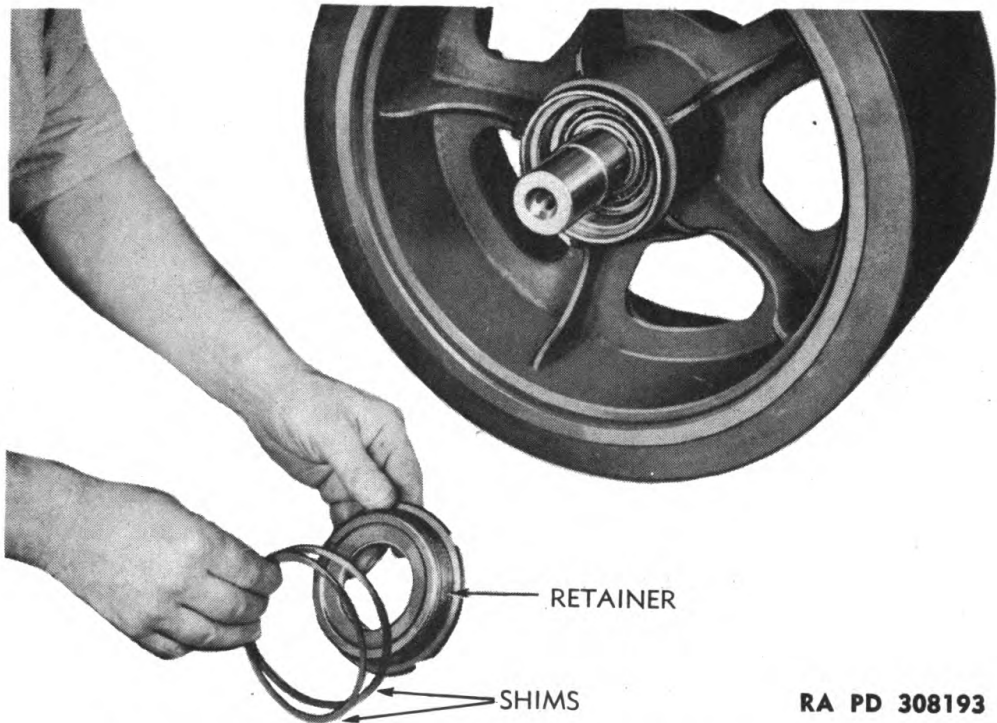
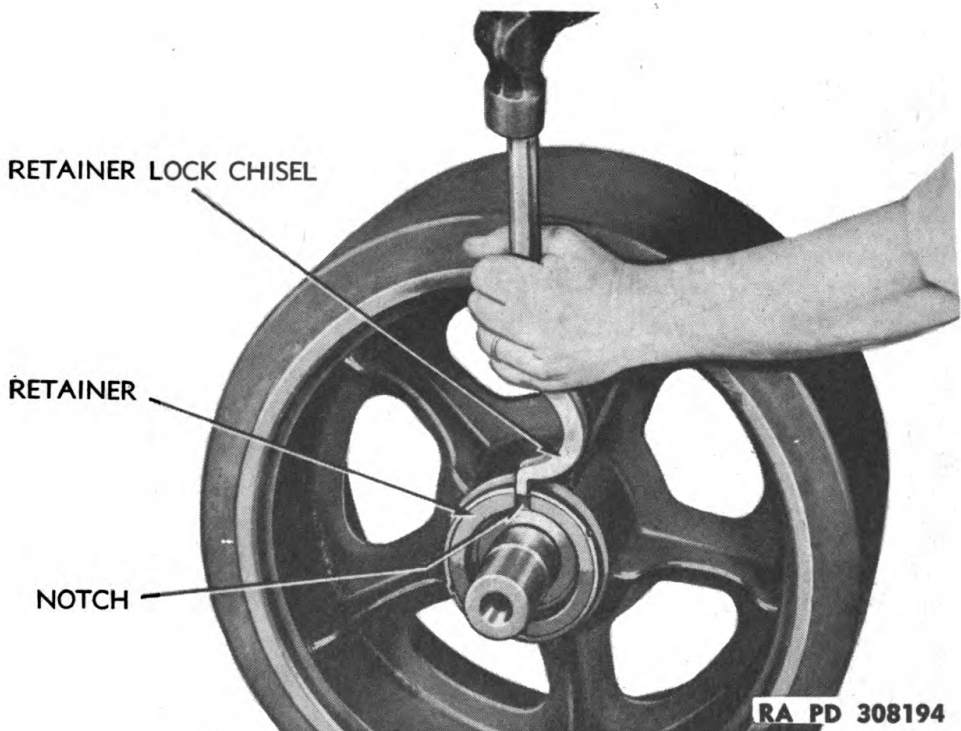

Figure 91 — Installing Shims on Bearing Retainer
Figure 92 — Locking Bearing Retainer, Using Tool (41-T-3380-30)
b. **Install Bearing Retainers and Shims.** Shims 0.0312, 0.010, and 0.007 inch thick are used in installation of retainers to allow for adjustment of bearings. Use the same shims that were removed with retainers if possible, if not, place shims equal in total thickness on both retainers (fig. 91) and screw retainers into hub. Tighten retainers with retainer wrench shown in figure 85 (par. 37 b). **NOTE:** *Be sure shims do not drop into threads of retainers during installation.* Rotate shaft by hand to test bearing adjustment. Bearings are correctly adjusted if there is no end play in shaft and a slight drag on bearings is felt when shaft is turned. Correct adjustment is made by adding or removing shims back of retainers. Both retainers must be tight when testing adjustment and retainers finally tightened by using hammer on handle of wrench after which bearing adjustment must again be checked. Secure retainers from loosening by bending edge of hub into slots in retainers with tool (41-T-3380-30) (fig. 92).